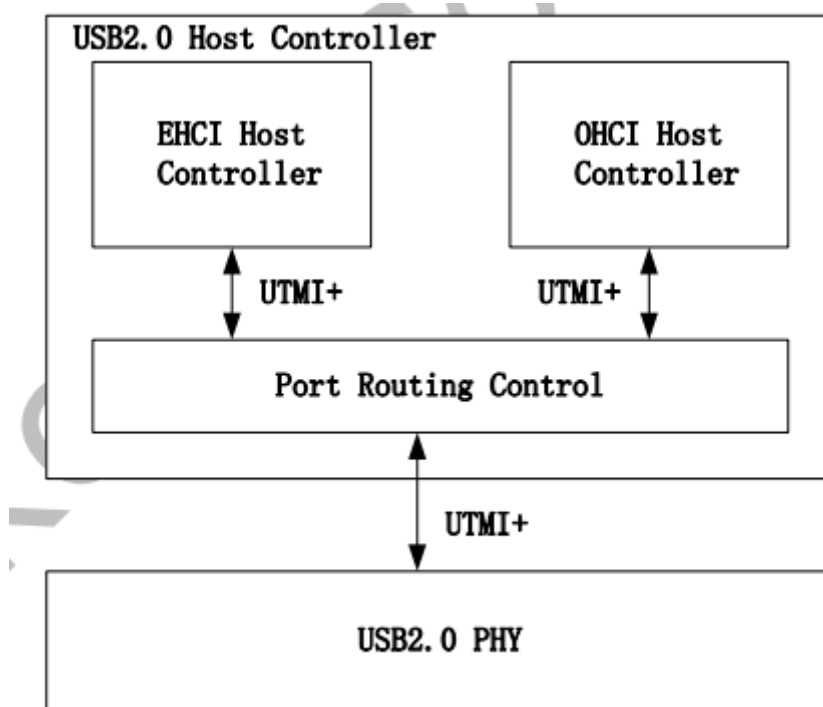

Figure 1-1 USB 2.0 Host Controller Block Diagram
- Support high-speed(480Mbps), full-speed(12Mbps) and low-speed(1.5Mbps). The block diagram of the USB 2.0 Host controller is shown in Figure 1-1.